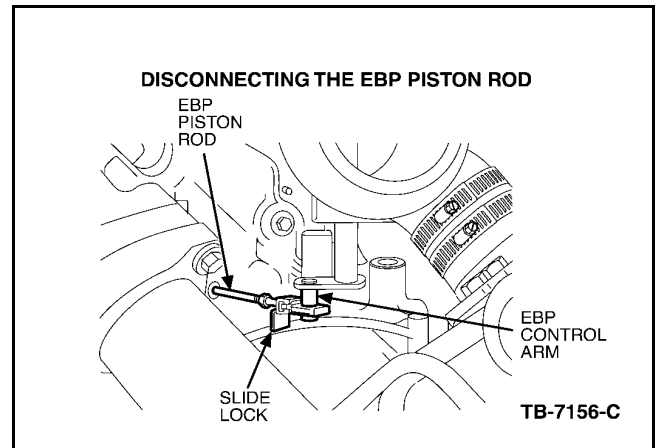

Figure 1 - Article 04-20-2
1. To disconnect the piston rod from the control valve, move the slide lock back and unhook the latch end from the control arm (Figure 1).